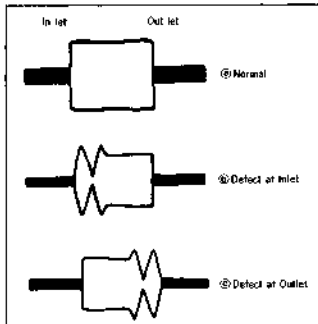

Fig. 36
- 5) Check that a RF waveform is flat at the inlet and outlet of the oscilloscope (Fig. 36 ㉑).
When the RF waveform is not flat at the inlet/outlet ; See Fig. 36 ㉒ and ㉓.